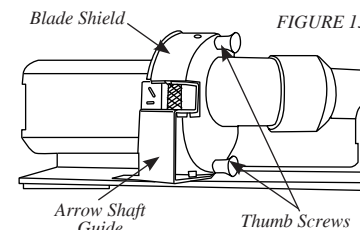

FIGURE 13
2. Loosen the two **Thumb Screws** holding the **Blade Shield** to the **Arrow Saw**. *Figure 13*